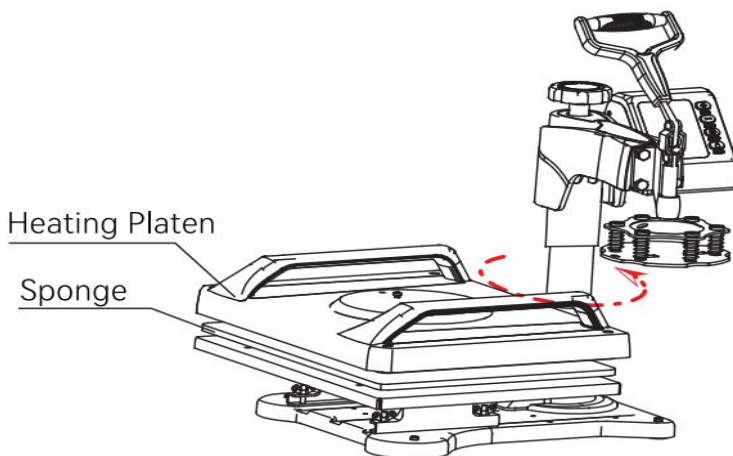

Fig 5
5. Swing the head away and put the sponge and the heating platen on the top of the table platen in order(as shown in figure5)